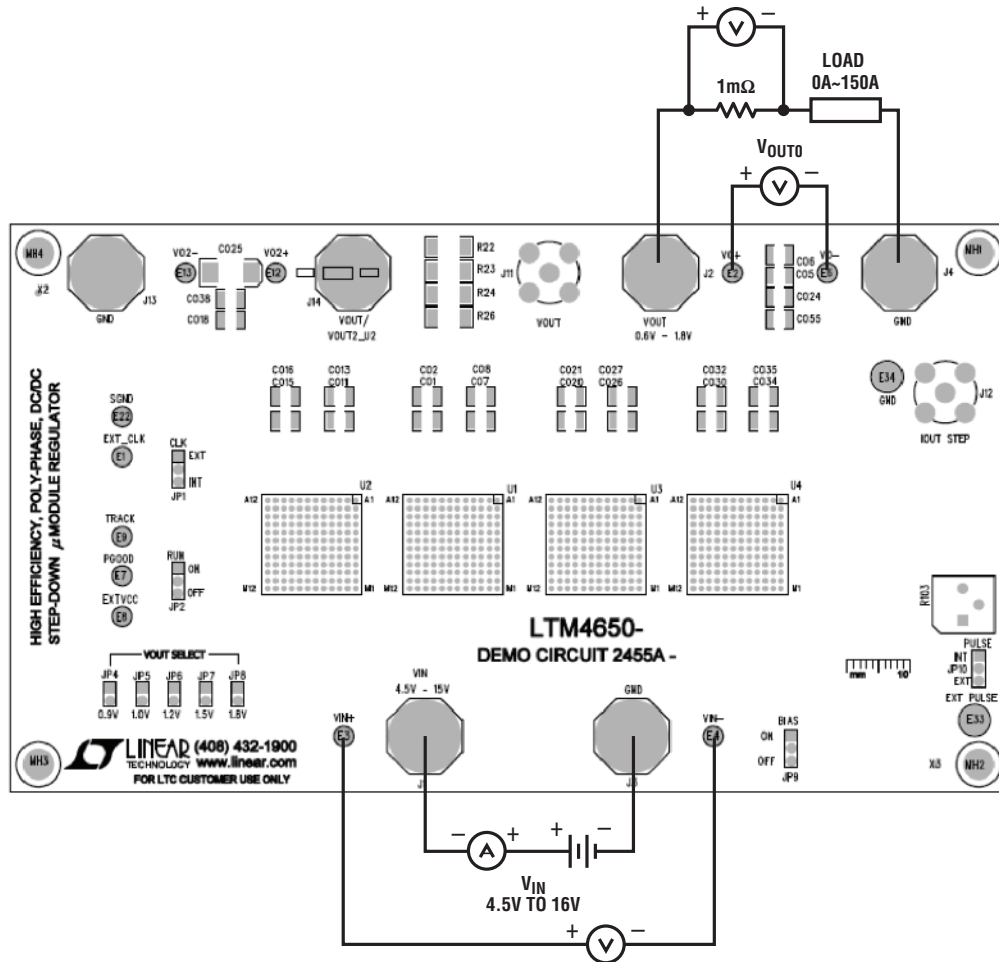

Figure 2. Test Setup of DC2455A-B
Demonstration circuit DC2455A-B is easy to set up to evaluate the performance of PolyPhase operation of the LTM4650EY-1. Due to the high input/output current, user should select the proper input supply/load/cable which can sustain the full load operation. It's recommended to pull load current from J2 and J4. The load current pulled from J5 and J6 shouldn't exceed 25A. Please refer to Figure 2 for proper measurement setup and follow the procedure below:
2. With power off, connect the input power supply, load and meters as shown in Figure 2. Preset the load to 0A and V_{IN} supply to 12V.